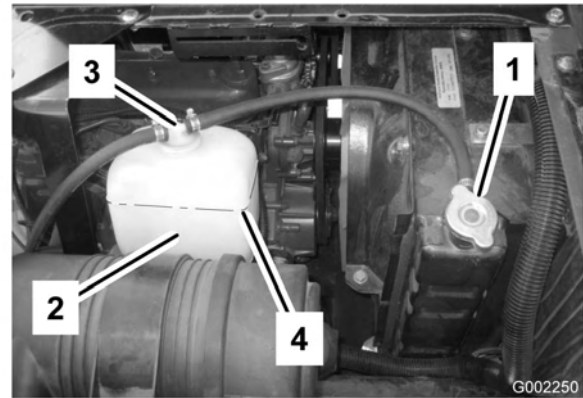

Figure 52
3. Carefully remove the radiator cap and the expansion tank cap (Figure 52).